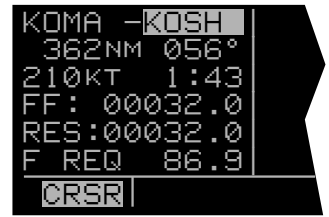

Figure 5-15
5. Press **ENT** to approve the waypoint page. The cursor will be positioned over the “to” waypoint identifier (figure 5-15).